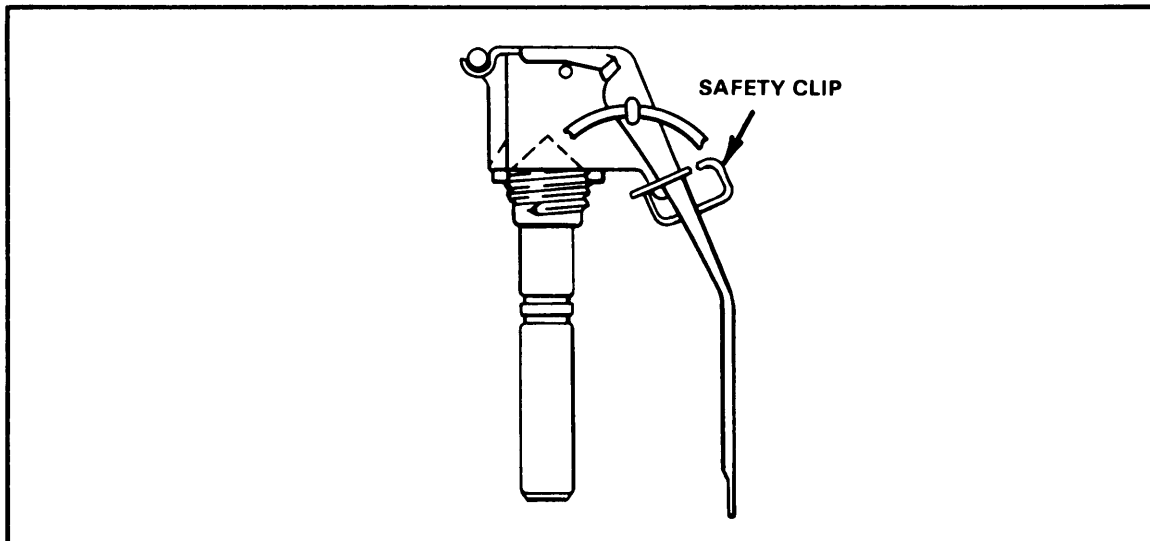

Figure 1-8. M228 fuze.
(2) M228 fuze (Figure 1-8). This fuze is used with the M62 and M69 practice hand grenades to replicate the fuze delay of the M67 fragmentation hand grenade. The time delay element is a powder train with a 4- to 5-second burn time. The igniter then induces the explosion of a black powder charge.